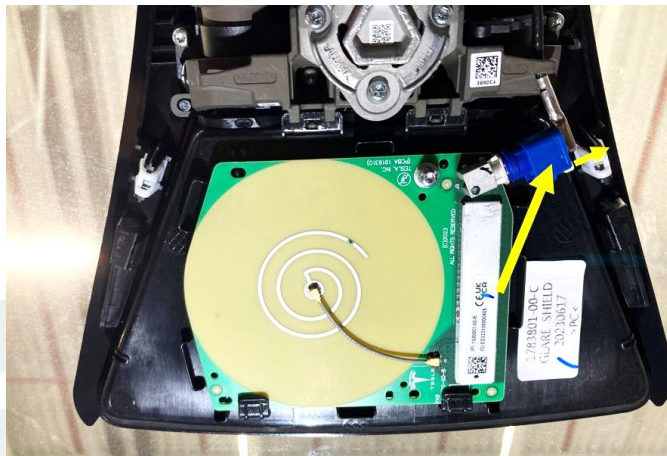

Figure 3
2. Disconnect the GNSS antenna connector from the GNSS antenna (Figure 3).
7. Connect the GNSS antenna connector to the GNSS antenna (Figure 3).